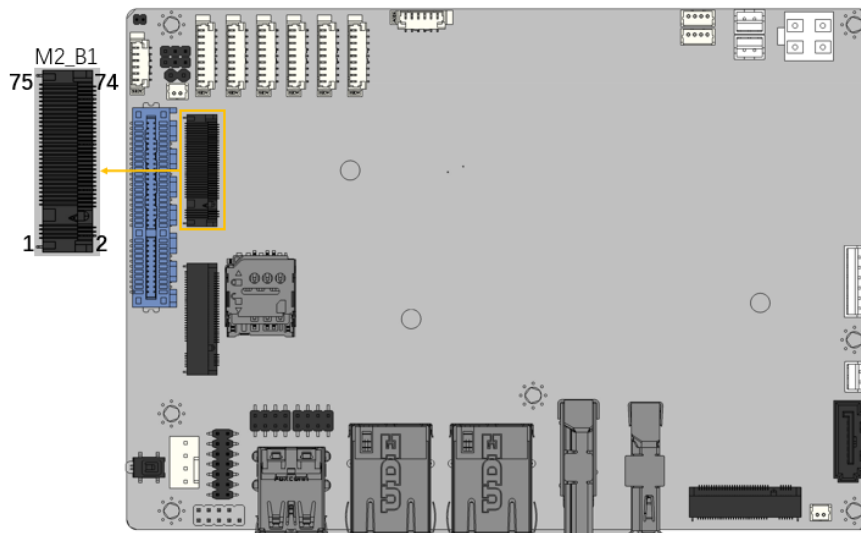

Figure 3-26: M.2 B-key Slot Location
- CN Location:** See **Figure 3-26**